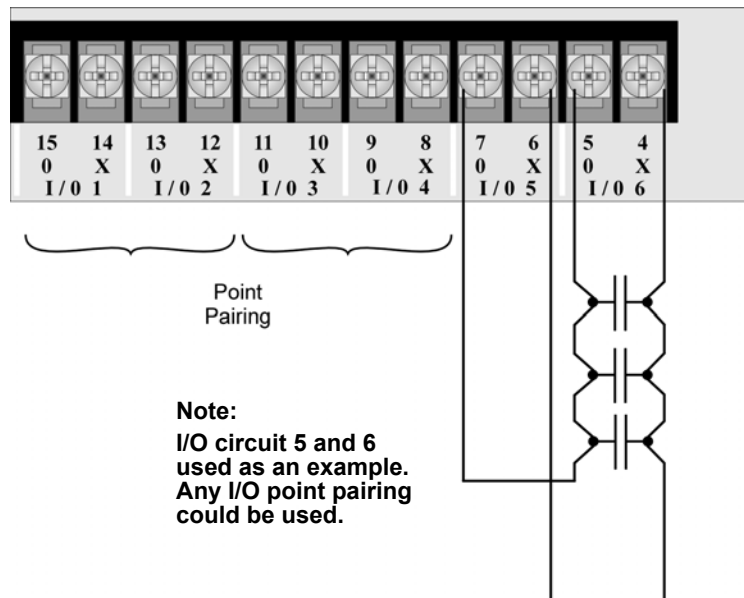

Figure 3.11 Class A Initiating Switches
1. Wire the Class A switch as shown in Figure 3.11.
NOTE: In programming, any point that uses the multiple I/O circuits are always referred to as the lowest I/O circuit number used. For example, Figure 3.11 uses both I/O circuit 5 and 6, so in programming it would be referred to as point 5.